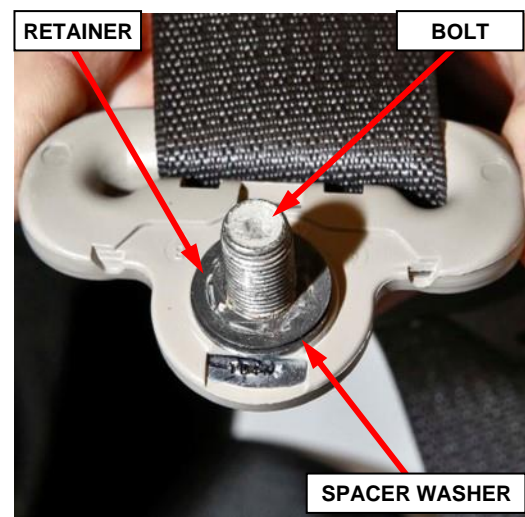

Figure 40 – Turning Loop Bolt
62. Remove and **DISCARD** the bolt retainer and the bolt from the seat belt turning loop, save the spacer washer for reuse (Figure 40).